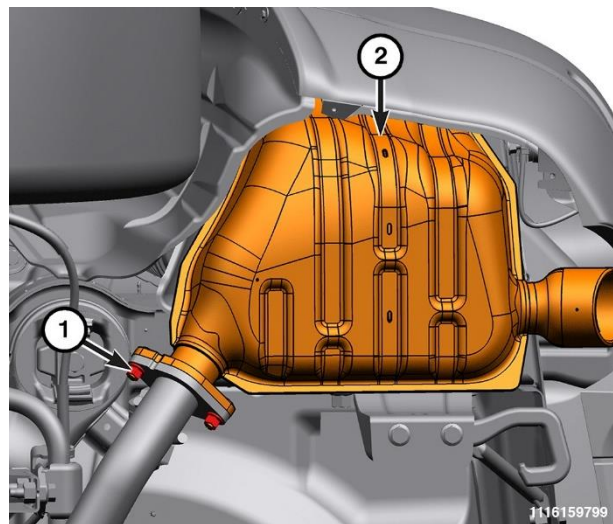

Figure 4 – Resonator
8. **Dual Exhaust ONLY:** Remove the resonator nuts (1) and the exhaust resonator (2) (Figure 4).